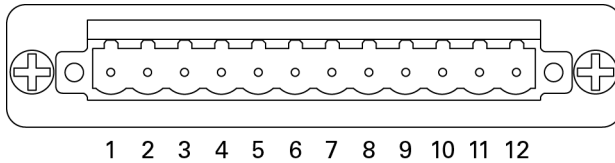

Figure 23: X9 External parallel interface
- A 12-pin terminal block for external parallel control signals is accessible on the right side of the communication interface, on the top section of the UPS (see *Figure 23: X9 External parallel interface*).